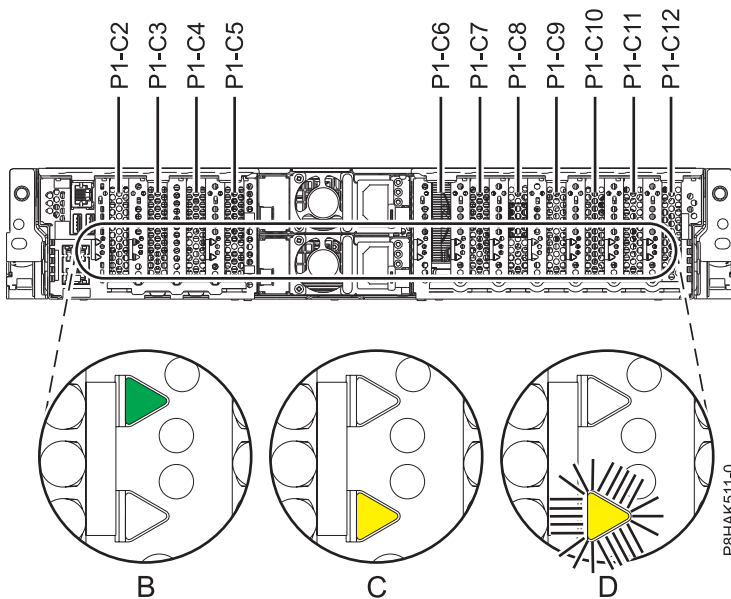

Figure 18. PCIe adapter slot locations and locations of the LEDs in the 5148-21L, 5148-22L, 8247-21L, 8247-22L, 8284-21A, or 8284-22A system
1. Familiarize yourself with the locations of PCIe adapter slots and the service indicators for the PCIe adapter that you want to service. The PCIe adapters are installed in the rear of the system. Figure 18 shows the locations of the PCIe adapters in an 5148-21L, 5148-22L, 8247-21L, 8247-22L, 8284-21A, or 8284-22A system and the locations of the light-emitting diodes (LEDs) for the PCIe adapter.